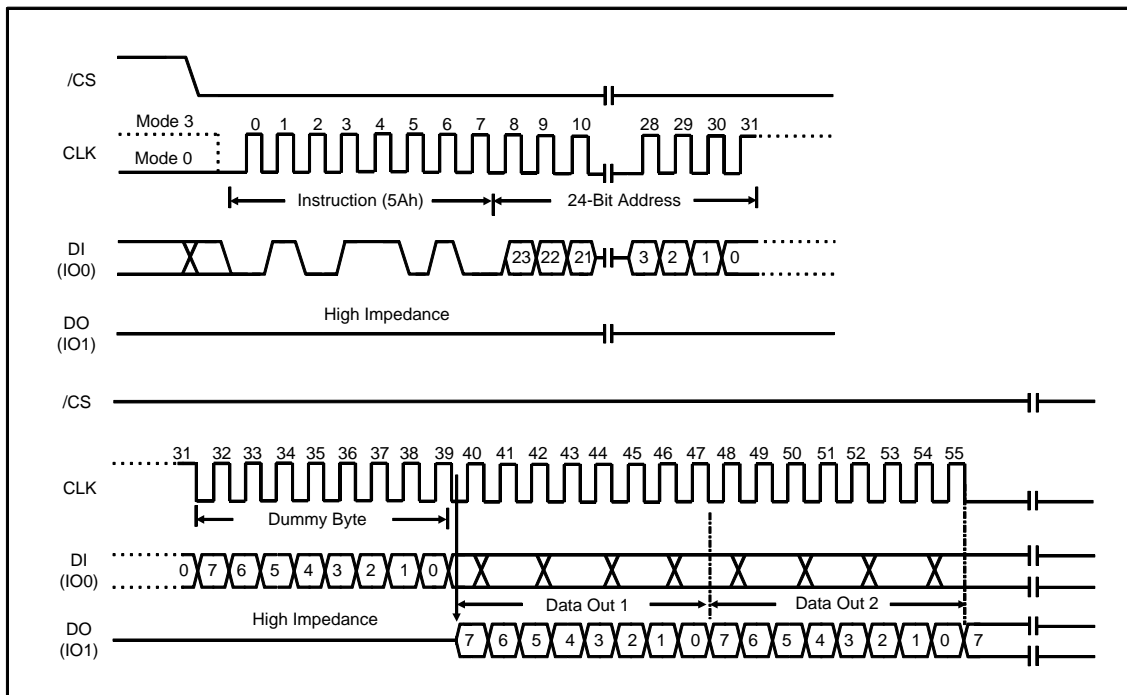

Figure 38. Read SFDP Register Instruction Sequence Diagram (Only SPI Mode)
The Read SFDP instruction is initiated by driving the /CS pin low and shifting the instruction code “5Ah”, followed by a 24-bit address (A23-A0)(1) into the DI pin. Eight “dummy” clocks are also required before the SFDP register contents are shifted out with the most significant bit (MSB) first on the falling edge of the 40th CLK, as shown in Figure 38. After each Byte of data is shifted out, the Byte address is automatically incremented to the next Byte address. The last Byte address of the register is FFh (data read after the last address will always be FFh), For SFDP register values and descriptions, please refer to the following SFDP Definition Table.